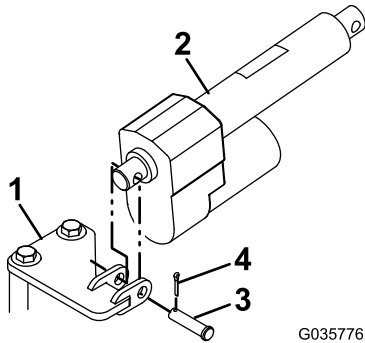

Figure 8
6. Install the actuator on the front, deck-lift bracket using the clevis pin and hairpin cotter (Figure 8).